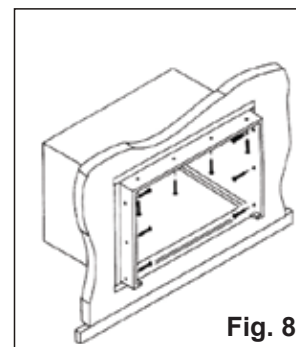

Fig. 8
5. Screw or nail cabinet wooden frame using shims, if frame is oversized, to eliminate distortion. (See Fig. 8.) Remember to maintain proper slope as described in Step 3.